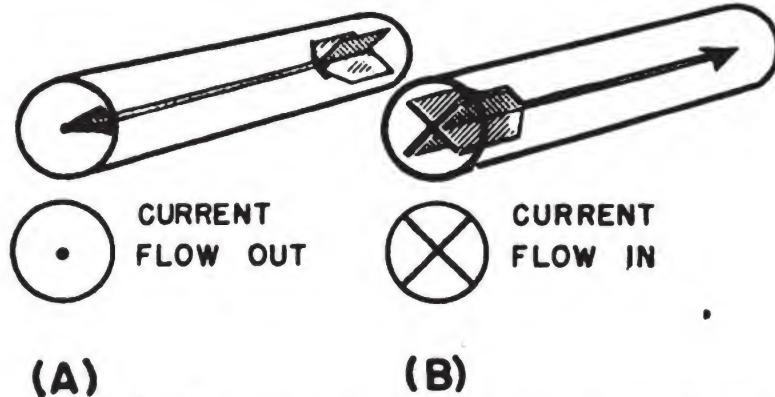

Figure 108.—Dot-cross method of indicating current direction.
In (A) of figure 108, you have a conductor with current flowing toward you. Note the use of the symbol  $\odot$ . It represents the tip, or pointed end, of an imaginary arrow in flight in the same direction as the current.
In (B) of figure 108, you have a conductor with the current flowing away from you. The symbol  $\otimes$  represents the feathered end of an imaginary arrow, again in flight in the direction of the current.